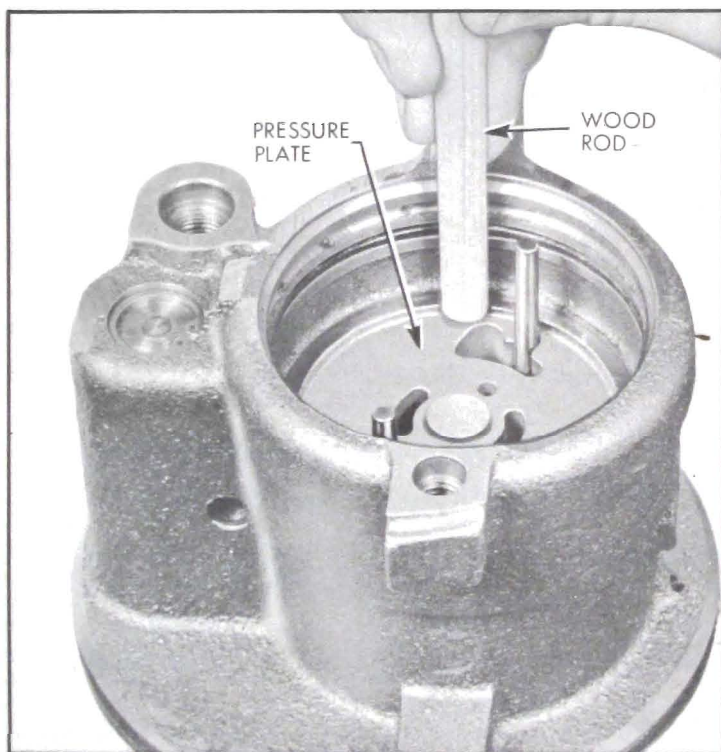

Figure 8-61—Seating Pressure Plate in Housing
12. Lubricate the outside diameter and chamfer of pressure plate with petroleum jelly and install on dowel pins with ported face toward pump ring. Dowel pins fit into slots in plate that are nearest outside diameter of plate. Use a soft plastic or wood rod and *lightly* tap around *outside* diameter of pressure plate to seat it. See Figure 8-61. Pressure plate will travel about $\frac{1}{16}$ " to seat. *Never press or hammer on the center of pressure plate as this will cause permanent distortion and result in pump failure.*